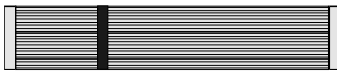
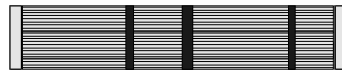

Figure 1-2a Standard Floppy cable
Figure 1-2b Optional 5.25 in. floppy cable
- ❑ One 34-pin floppy disk drive ribbon cable (Figure 1-2a) or (Figure 1-2b)